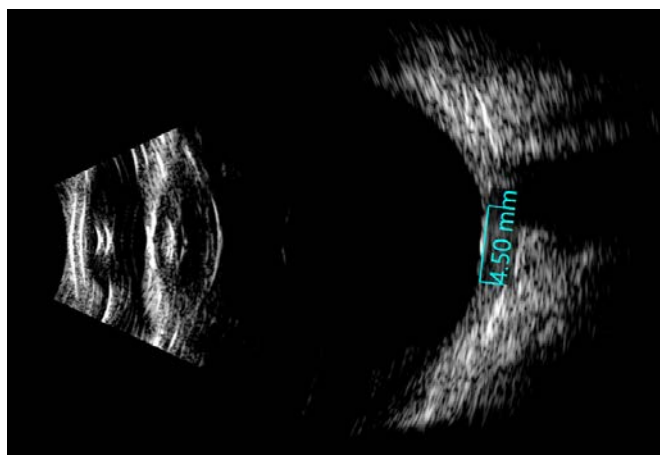

Figure 16: Axial Arrangement of the Eye
- ① Once a B-Scan video has been captured, select a frame that best shows the axial arrangement of the eye, including the anterior and posterior part of the lens. A sample is shown in Figure 16.